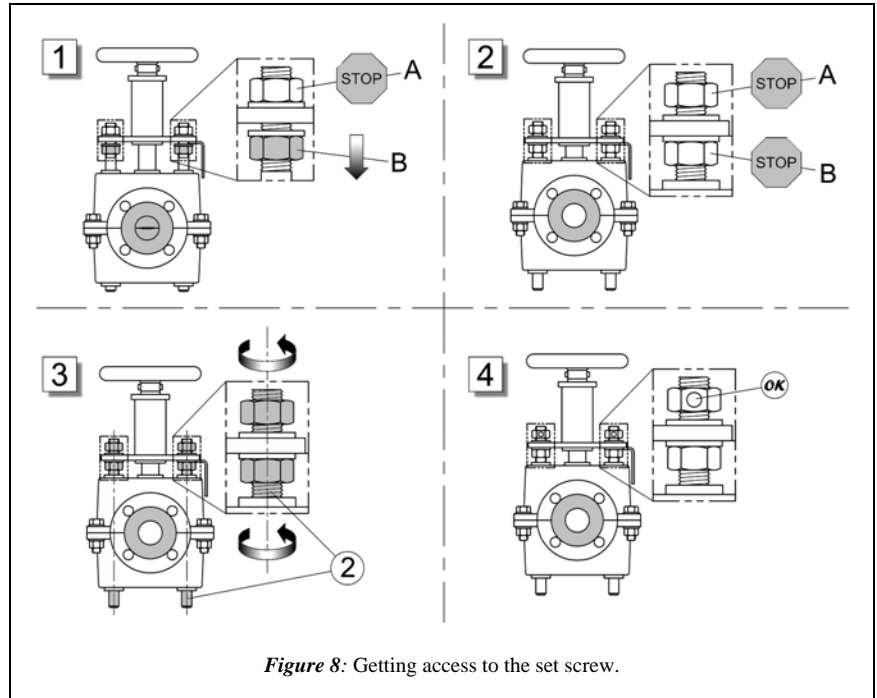

Figure 8: Getting access to the set screw.
- spin both B-nuts down at least one turn (box 1 in Fig. 8).
- actuate the RF Valve® open (box 2 in Fig. 8).
- turn both the pull bar ② and the A-nut simultaneously as if they were one part until the hole in the A-nut is accessible (boxes 3 and 4 in Fig. 8). IT IS VERY IMPORTANT THAT THE A-NUT DOES NOT MOVE/TURN RELATIVE TO THE PULL BAR!
STEP 7: Actuate the RF Valve® closed again and measure the size of the new gap,  $\chi_1$ . It should be roughly 3mm in size (Fig. 8).